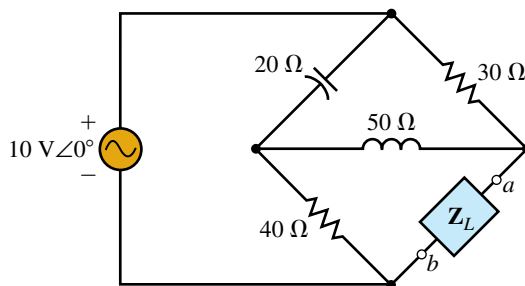

FIGURE 20–82
29. Find the Norton equivalent circuit external to the load impedance of Figure 20–68.
30. Repeat Problem 29 for the circuit of Figure 20–69.
31. a. Using the outlined procedure, find the Norton equivalent circuit external to terminals a and b in Figure 20–72.